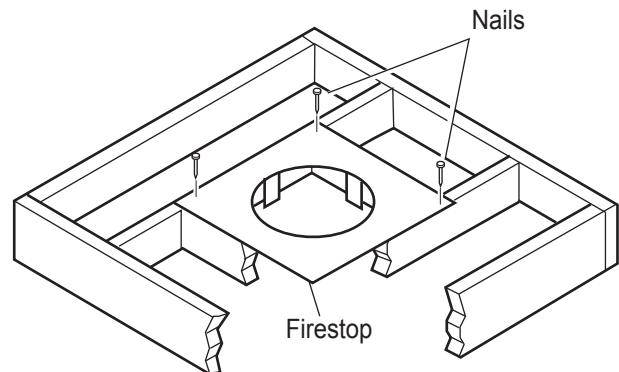
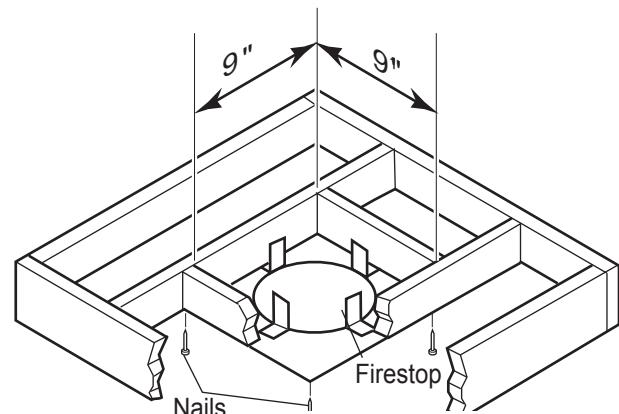

Figure 28- If area above is a room, install firestop above framed hole as shown
Figure 29 - If area above is not a room, install firestop below framed hole as shown
- Cut a 9" (229mm) square hole in the ceiling using the locating hole as a center point. The opening should be framed to 9" (229mm x 229mm) inside dimensions as shown in *Figure 12*, page 17 using framing lumber the same size as the ceiling joist. If the area above the ceiling is an insulated ceiling or a room, nail firestop from the top side. This prevents loose insulation from falling into the required clearance space. See *Figure 28*. Otherwise, install firestop below the framed hole. The firestop should be installed with no less than three nails per side. See *Figure 29*.